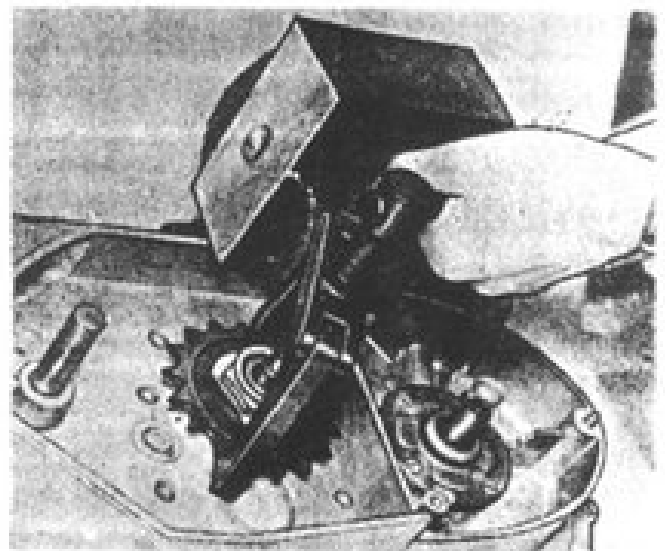

Fig. 11. Removal of gearbox cover, ИЖ-П-3 motorcycle.
2. Remove the gearbox cover by means of a puller 13, from Set No. 2 (Fig. 11). When doing it don't damage the gasket. If the gear shift